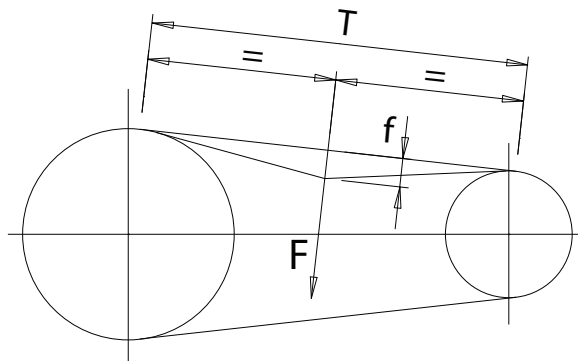

Fig. 11 Tension of belts
- 1) measure the free section **T** (**Fig. 11** on page 44);